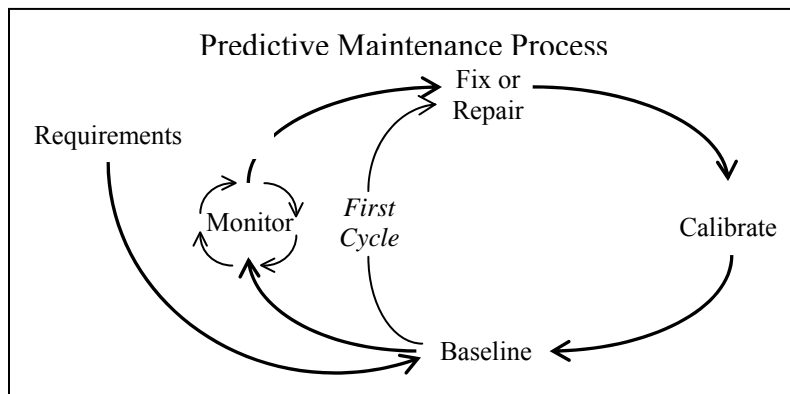

Figure 1
Applied in a systematic manner, the six steps listed in Table 2 provide a predictive maintenance process (see Figure 1 above) that (1) maintains and improves the capabilities of your machine, (2) eliminates judgment calls on which machine to use, (3) eliminates bottlenecks, (4) transforms operational expenditures into investments in your processes, (5) increases machine up-time, (6) eliminates unnecessary movement of parts, and (7) provides traceable documentation of your machine and process capabilities